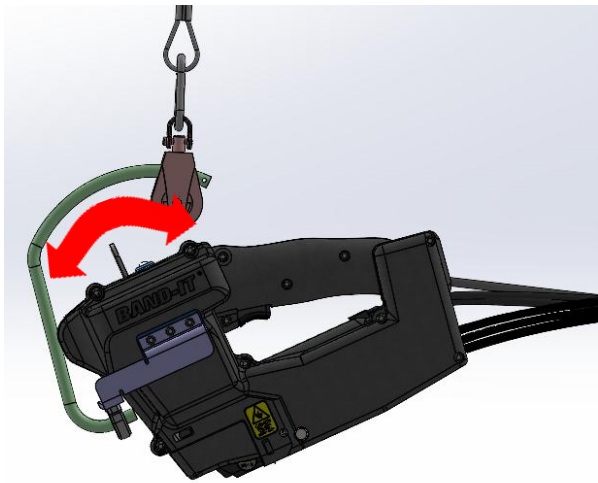
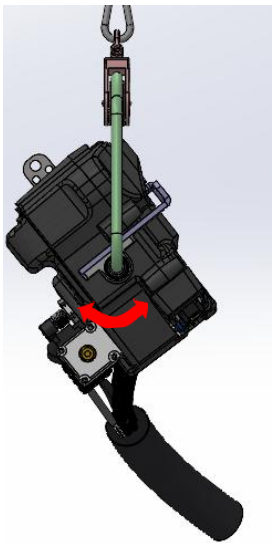

Figure 36
Figure 37
- The tool needs to be located directly above the clamp location if using a balancer as shown below (Figure 37 & Figure 36).